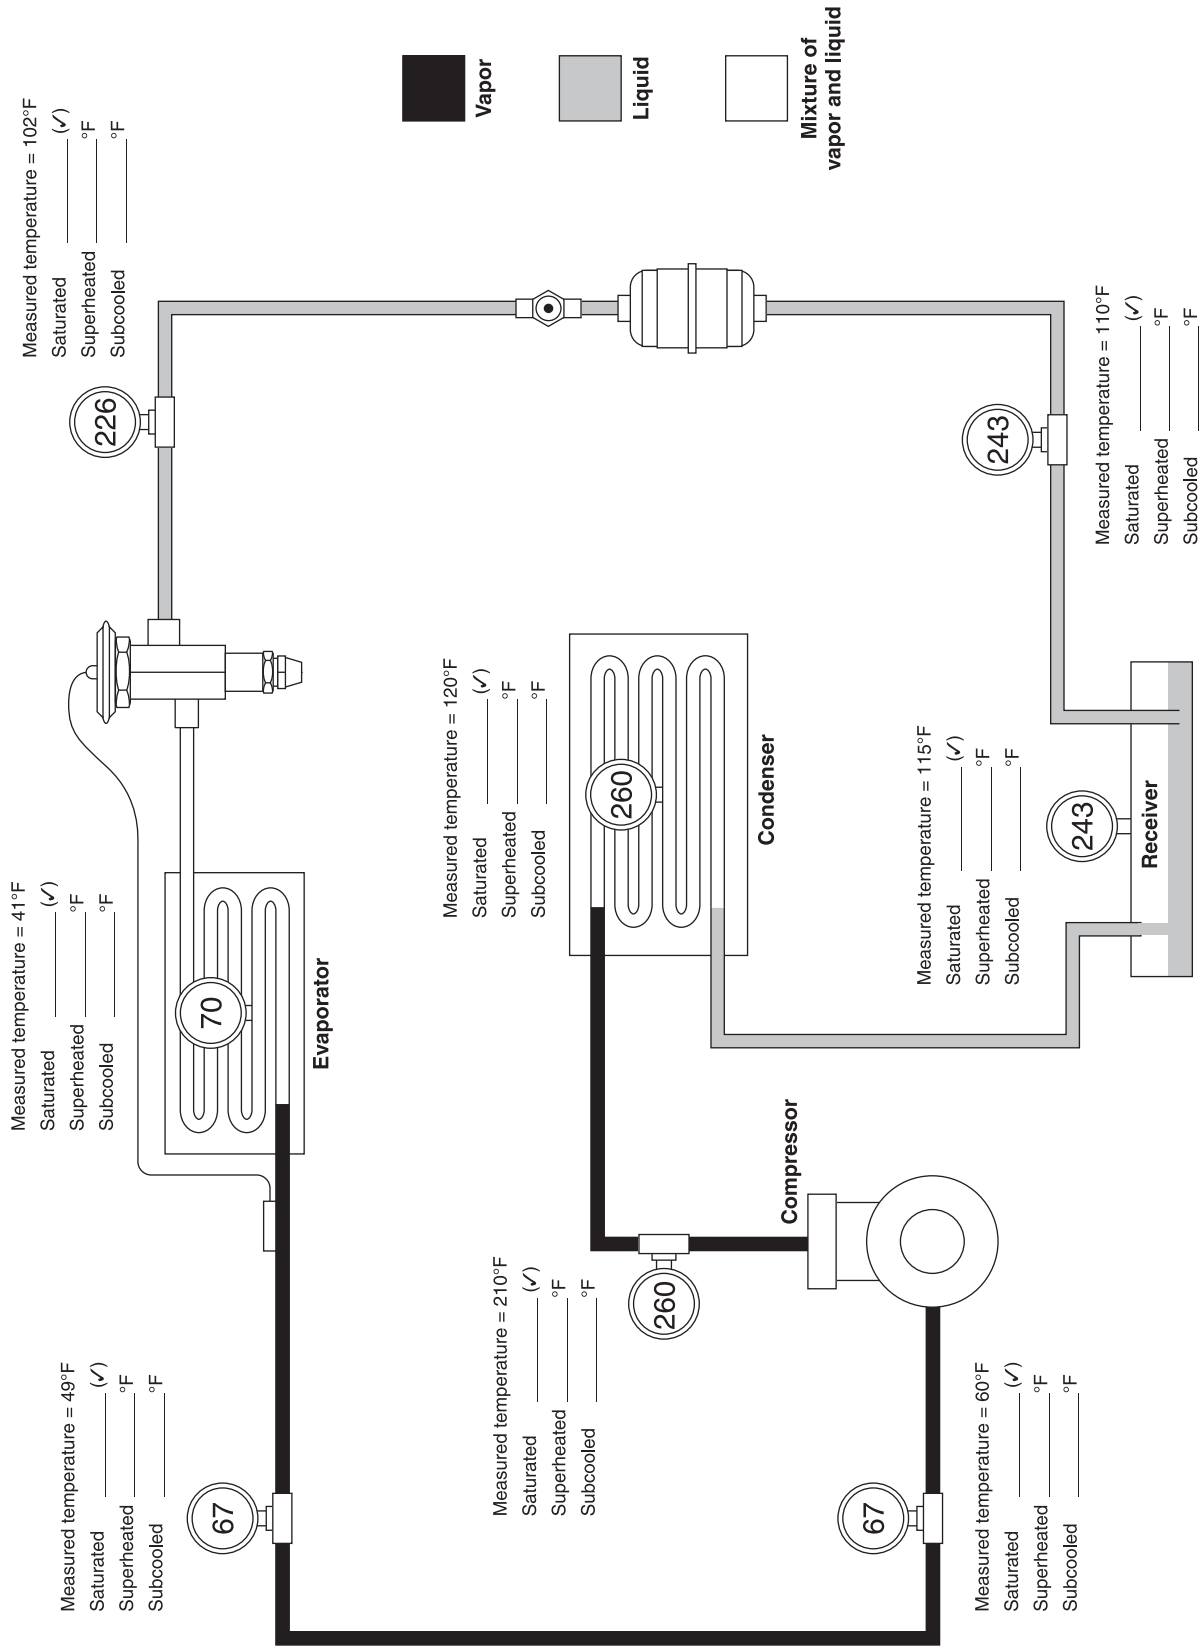

Figure 3. Exercise involving pressure-temperature measurements in normally operating system using R-22
**TEST YOUR P-T KNOW-HOW!** Figure 3 on the next page is an exercise designed to test your knowledge and use of the P-T relationship. Pressure and temperature readings are shown at various points in the system. Fill in the blank that indicates the condition of the refrigerant at each point. Use a check mark for saturated refrigerant. For superheated vapor and subcooled liquid, indicate the amount in degrees Fahrenheit.